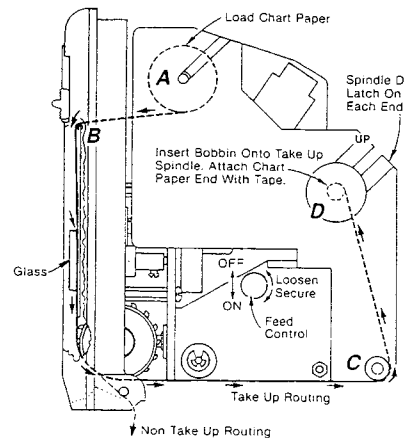
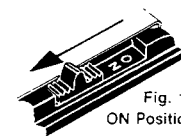

Fig. 9
Fig. 11
3. To insert or remove chart paper, place recorder in horizontal position and press the release button in the direction shown in fig. 10. Raise the recorder mechanism to a vertical position until it locks. Remove feed shaft A (see fig 9) and place chart roll on spindle. Remove tape on roll and retain tape for securing chart on take-up spindle D. Unroll about 12" to 15" and route paper over top edge of scale plate B underneath glass, over the sprocket wheels, to the
rear and over the idle roller C up to the cardboard bobbin mounted on the take-up spindle D. Secure edge of chart to bobbin with tape. Make sure the sprocket holes in the paper engage the sprocket wheels. Be sure that feed control is tight and in the right position. The word "on" must be visible. Press in the idle roller extension C to allow the recording mechanism to move back down into the case and lock into position. Replace cover by positioning the "U" bend onto the plastic projections and snap front down. Make sure chart paper is not binding with the cover in place. For "non-take-up" recording, route chart through bottom slot as shown in fig. 9.
1. To select chart speed, energize recorder with proper line voltage and frequency. Raise recorder to vertical position (see loading and unloading chart paper on take-up models). Move chart drive switch to "ON" position exposing the word "ON". Make sure switch clicks into detent (see fig. 11) Set all three speeds to "OFF" position and tighten (see fig. 9). Move desired speed knob (1, 12 or 24) to "ON" position. Tighten while keeping pressure on gear mechanism.
2. Press in the idle roller extension C to allow the recording mechanism to move back down into the case and lock into position. Replace cover by positioning the "U" bend onto the projections above the chart well opening. Make sure chart paper is not binding with the cover in place. For "non-take-up" recording route chart through bottom slot as shown in figure 9.
7. Push chart drive switch to "ON" position (exposing the word "ON"). Make sure it clicks into detent position which locks it into place. See fig. 11.